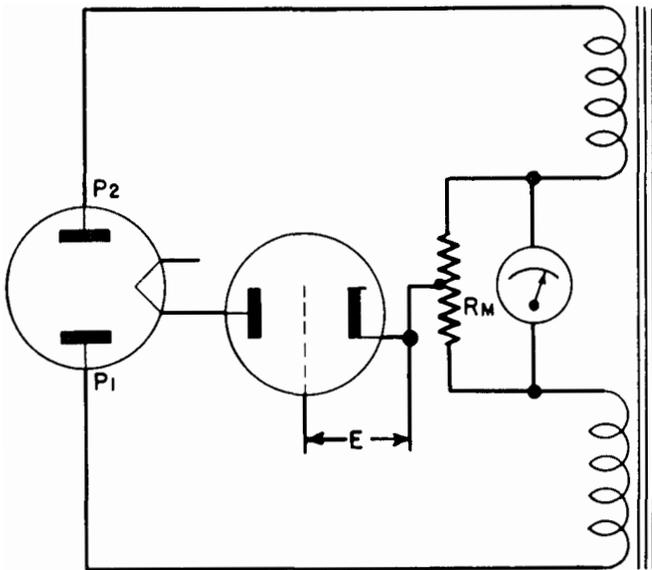

Figure 2-2. Basic Mutual Conductance Circuit
b. If the electron tube to be tested is substituted for the fixed load resistance, and a fixed bias E is applied to the tube as in Figure 2-2, the meter will still read zero because an electron tube under steady-state conditions acts like a fixed resistance.